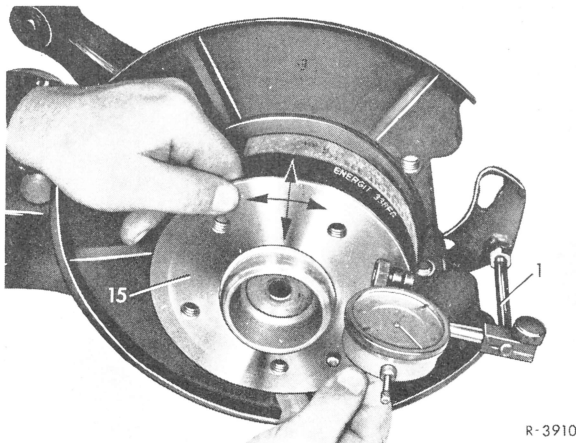

Fig. 19
**21** Attach dial gauge holder to wheel carrier and check end play of rear axle shaft flange, while moving rear axle shaft flange axially back and forth and simultaneously rotating clockwise and counterclockwise (Fig. 19).